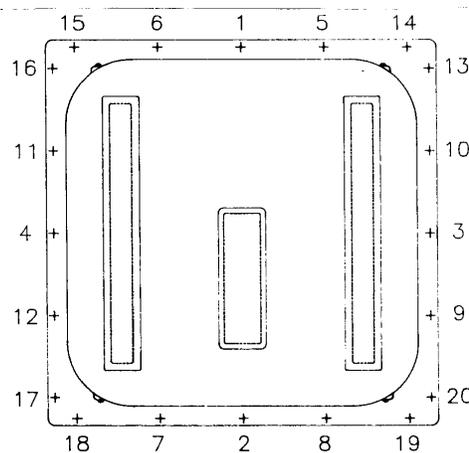

Fig. 1 Screw Installation Pattern
7. Using the pre-drilled holes in the hatch flange, drill through the roof at each location using the pattern shown in Figure 1. Tighten the screws to 5 – 7 ft-lbs of torque, being careful not to strip the screws in the sheet metal or cause significant deformation of the mounting flange. For hatches with a 373"R & no pre-drilled holes the manus bond tape will bond with proper clamping. A bead of silicone sealant may be applied to the edge of the mounting flange & roof and screw heads if applicable.